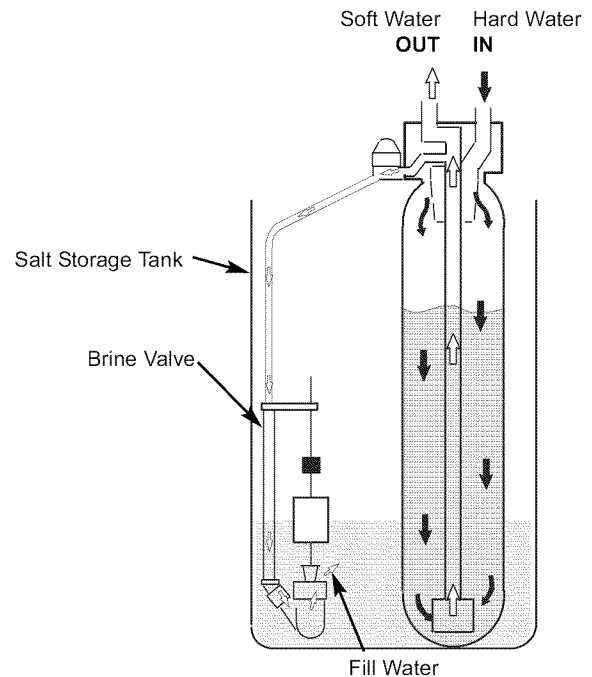

FIG. 37
**FILL:** Salt, dissolved in water, is called brine. Brine is needed to clean the hardness minerals from the resin beads. To make the brine, water flows into the salt storage area during the fill stage. See Fig. 37. Fill cycle length depends on how much soft water making capacity you have used since the last regeneration. As you use more water, fill time increases so more brine is made. The greater amount of brine cleans more hardness minerals from the resin bed.